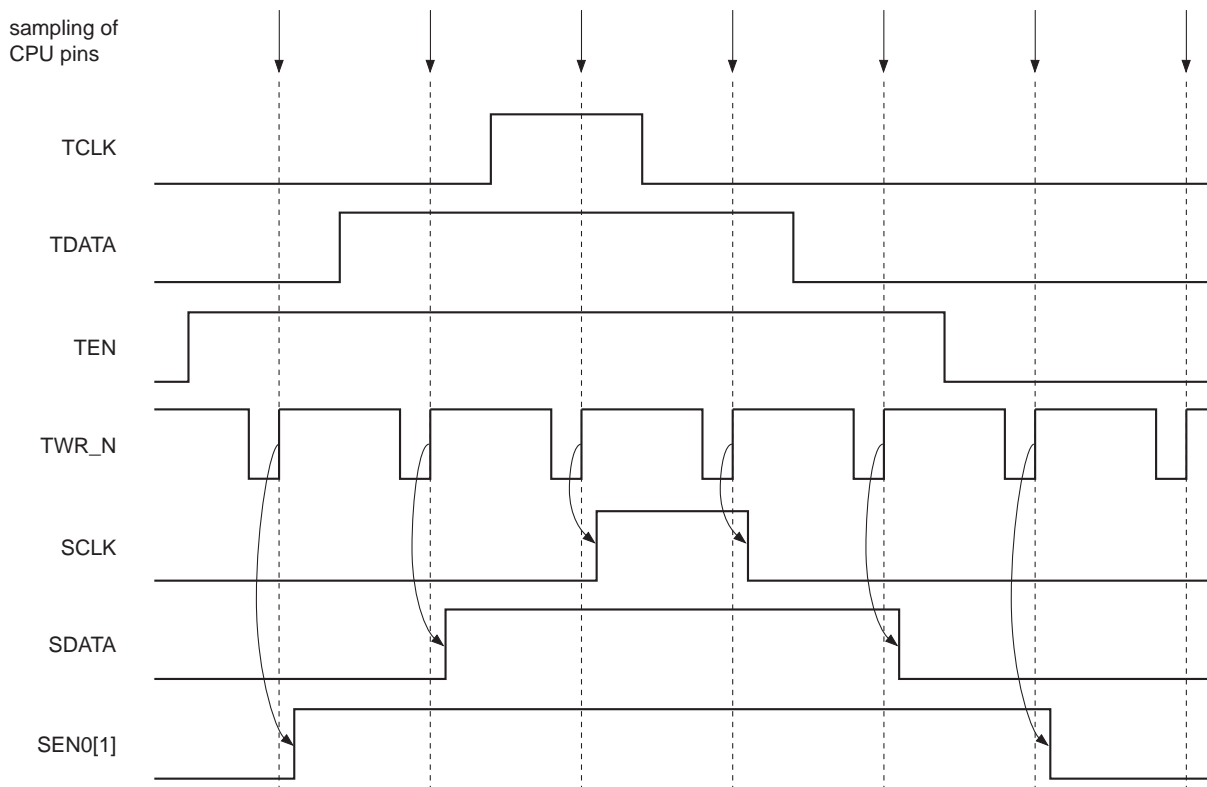

Fig. 6. 3-Wire Bus : Mode 0 Operation
- **Mode 0** : The host CPU drives the 3-wire bus pins via the CPU interface pins TCLK, TDATA and TEN. These pins are connected to the CPU data bus and a decoded active low strobe is connected to the TWR\_N input pin. On each rising edge of TWR\_N, the data on TCLK, TDATA, and TEN is registered by the CXD1958Q demodulator, and driven out on the SCLK, SDATA and SEN0 or SEN1 pins respectively. The I2C bus register bit SEL selects whether SEN0 or SEN1 is activated during this transfer. Thus the transfer rate on the 3-wire bus interface in this mode is determined by the rate of CPU accesses. The operation of this mode is shown in Fig. 6.